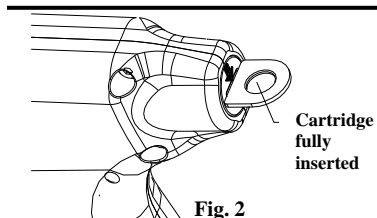

Fig. 2
4. Insert the cartridge all the way in to the back of the handpiece. (Fig. 2), making sure it is handled by its sides or proximal end behind "the ladder" in order to avoid any displacement of clips or ladder.